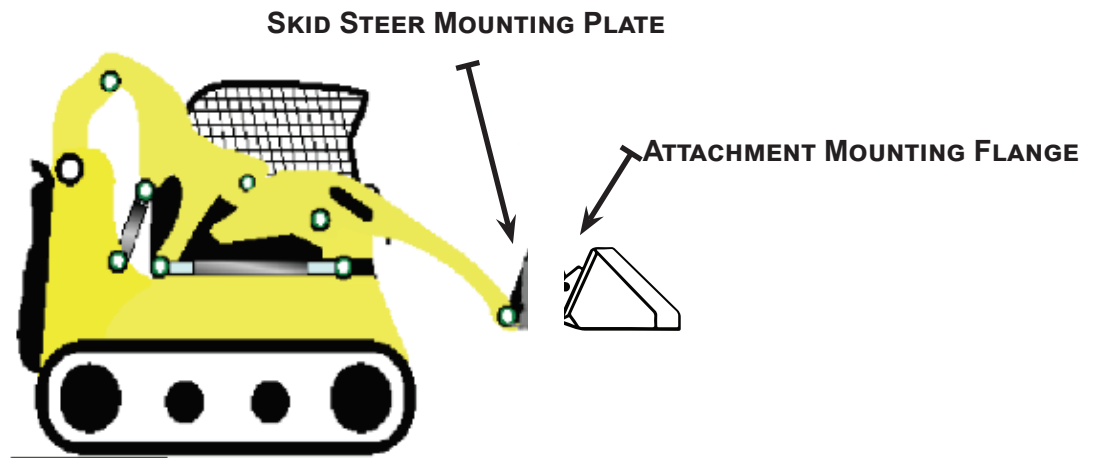

FIGURE 4.2A - SKID STEER MOUNTING PLATE TO ATTACHMENT MOUNTING FLANGE
2. Drive the skid steer to the attachment plate and tilt the skid steer coupler forward and hook the top edge of the skid steer quick attach mechanism under the lip of the power rake's attachment plate. See figure 4.2a below.
3. Slowly raise and tilt back the skid steer mounting plate, moving upward until the power rake's attachment plate is flat against the skid steer quick attach mechanism. See figure 4.2a below.